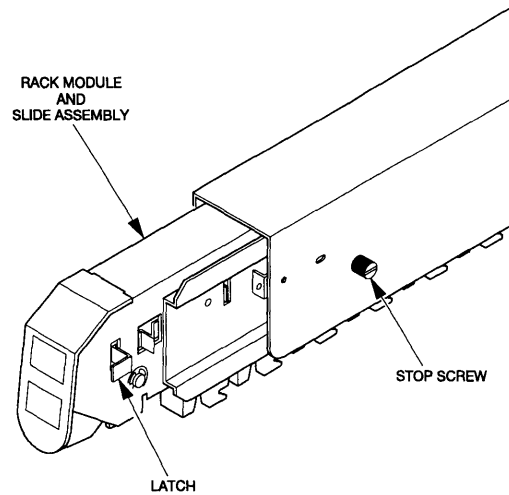

Figure 2
1. Press the latch and pull the rack module and slide assembly toward you until it stops (figure 2).
3. Remove the stop screw (figure 2).